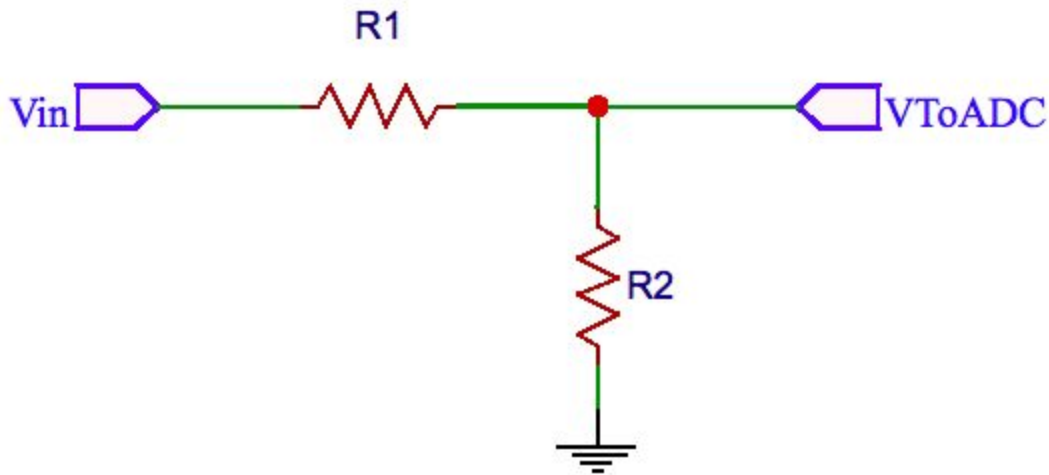

Figure 1. Circuit for signal conditioning to ADC
- Which limitations does the circuit on Figure 1 impose on the signal to be connected to it?